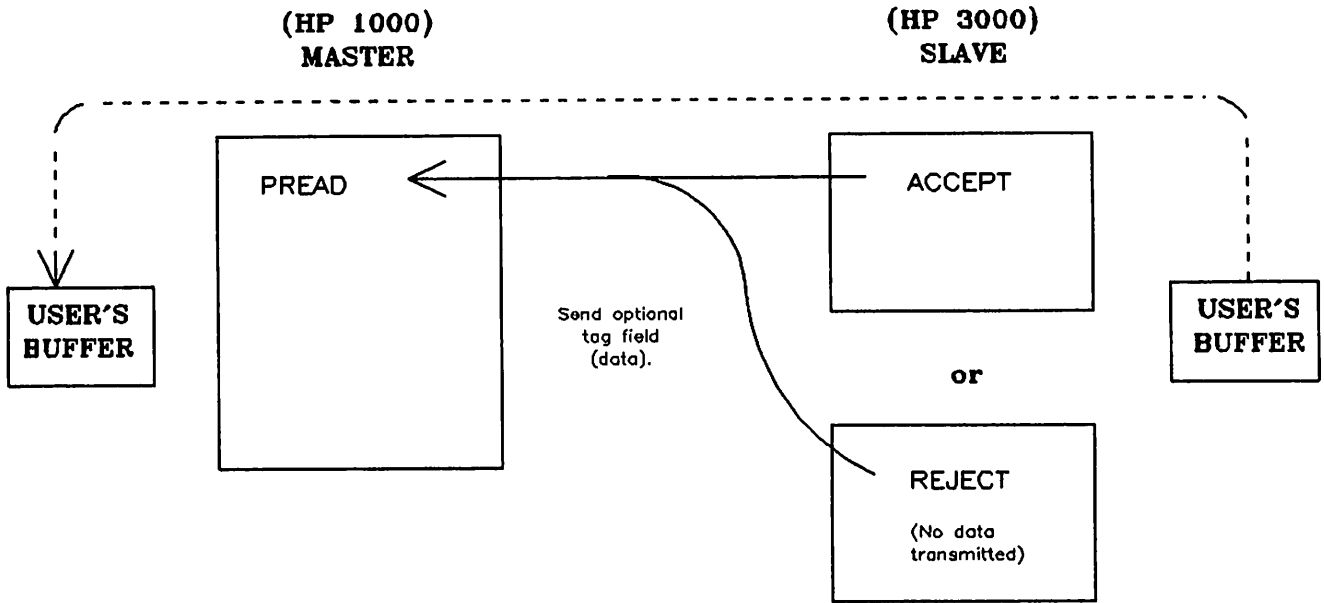
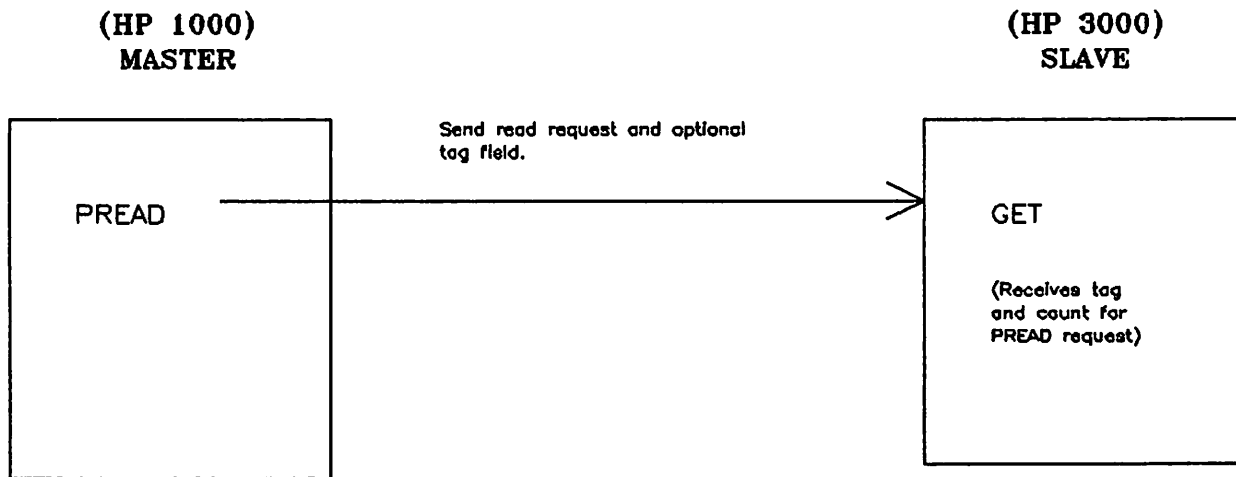

Figure 6-1. ACCEPT Activity for PREAD
Figure 6-3. GET Activity with PREAD
In the case of a PREAD request, the ACCEPT call transmits the specified number of words, *TCOUNT*, from *TARGET* to the remote HP 1000 master program and transmits an optional tag field, *ITAG*, to the remote HP 1000 master program. See Figure 6-1.
You may want to refer to Figure 6-3 in conjunction with Figure 6-1. Figure 6-3 shows the GET activity with PREAD which would occur prior to the ACCEPT activity.
- IL** Integer (optional). A word that has meaning only when a PREAD or PWRIT request is received from the remote HP 1000 master program. For a PREAD request, *IL* contains an integer specifying the number of words requested by the remote HP 1000 master program. For a PWRIT request, *IL* contains an integer specifying the number of words transmitted from the remote HP 1000 master program to the DS buffer. See Figures 6-3 and 6-4.